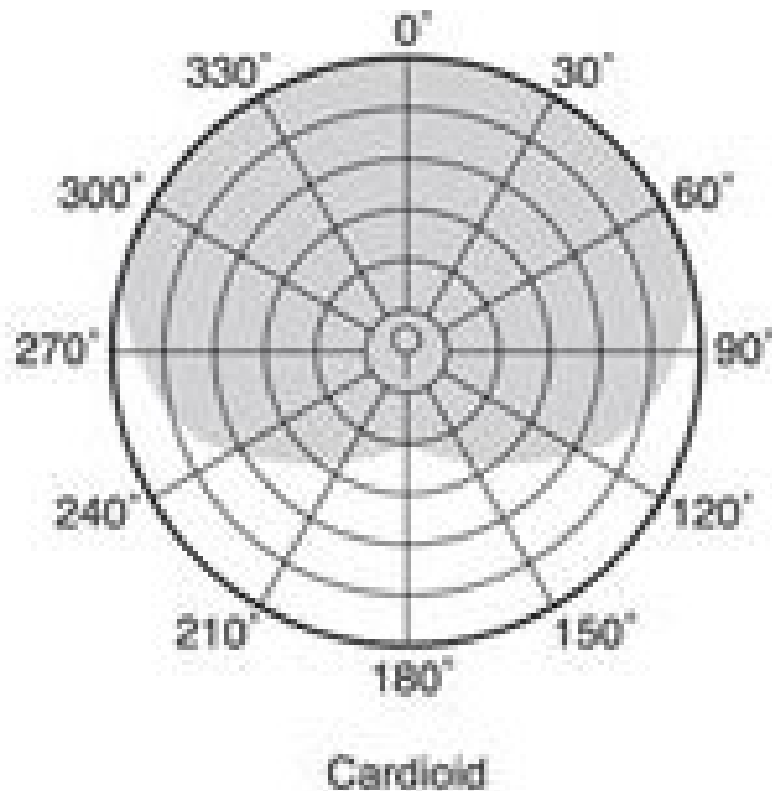

Figure 8 Pattern
- All ribbon mics inherently have figure 8 pickup patterns.
- So a Cardioid eventually morphs into a Figure 8.
- Has 9 pickup patterns (cardioid, omni, figure 8, and various “in between.”)